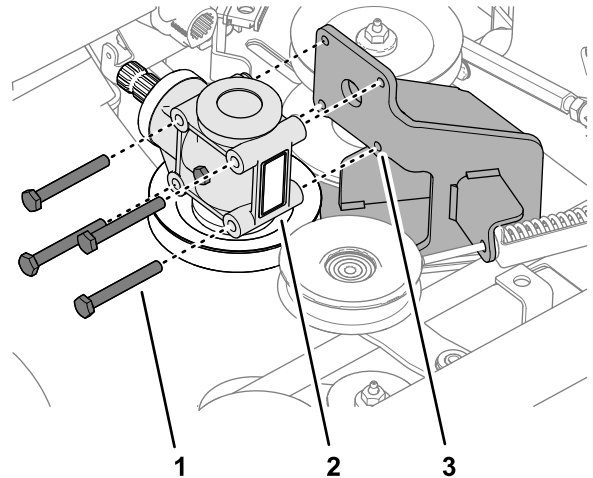

Figure 118
2. Remove the 4 bolts that secure the mower-deck gearbox to the gearbox support (Figure 118).
1. Align the holes in the mower-deck gearbox with the holes in the gearbox support; refer to Figure 118 in Removing the Gearbox \(page 79\).